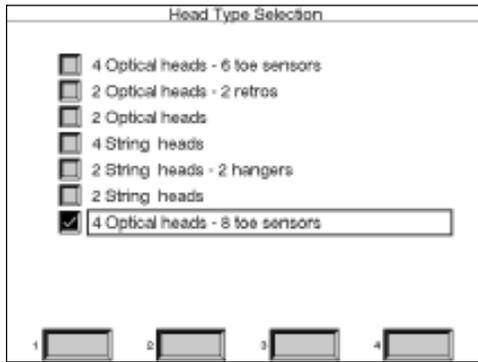

Figure 4 -- Head Type Selection Screen
2. On the "Head Type Selection" screen (Figure 4) use the up/down arrow keys to place the selection box over "4 Optical heads - 8 toe sensors" and press ENTER.